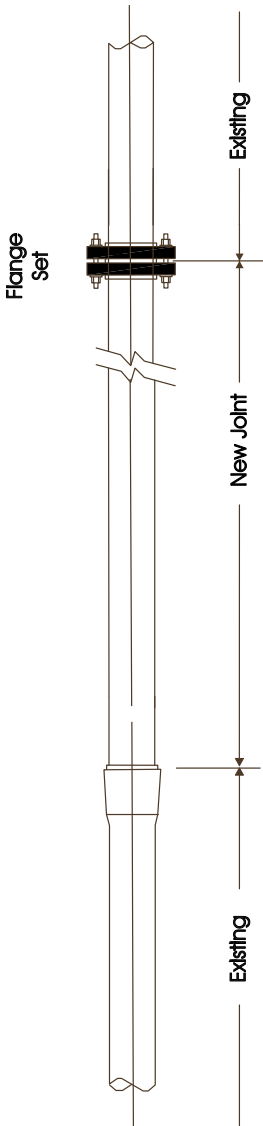

Figure 17 - Method 1 Repair Joint
- Reference Figure 17 and 18.
### Star Aliphatic Amine Line Pipe (Figure 17)